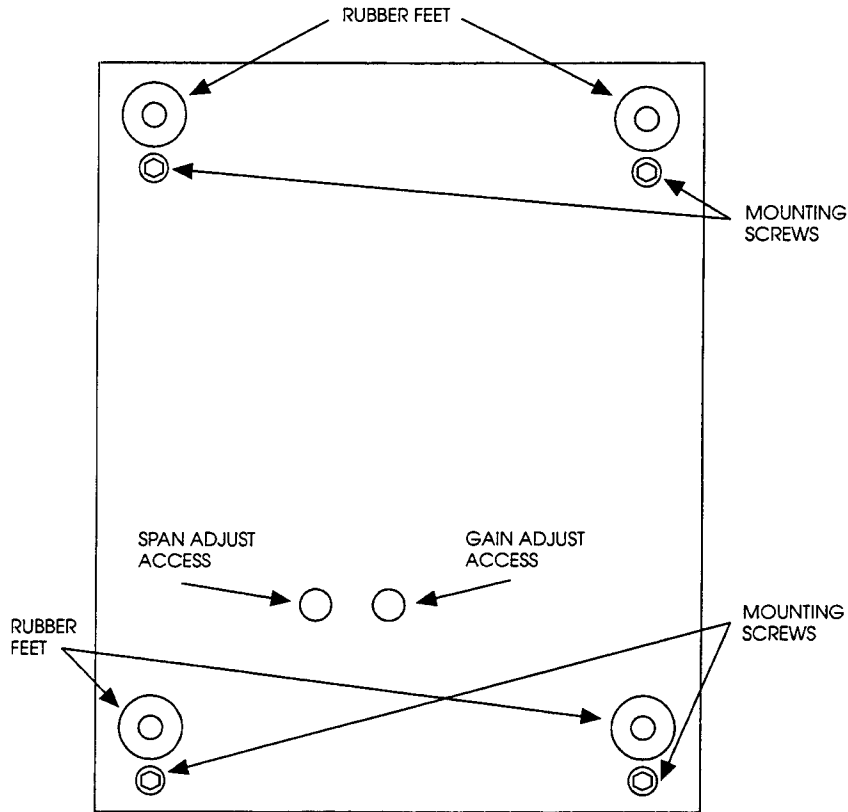

Figure 4. Bottom Cover Mounting Screw and Gain/Span Control Access Location
6.3.1 Gain (See Figure 4)
7. Return the pen to the setting in step "E" with the E potentiometer in the preamp circuit. (Figure 4)
9. Return the pen to the setting in step "E" with the 1 potentiometer in the pre-amp circuit. (Figure 4)
6.3.3. Span (See Figure 4)
- G. Remove the chassis wrap (Figure 4).
- J. Adjust the 500 mV/1/2/5V range calibration potentiometer located on PreAmp PCB (See Figure 4) for 100% +0.5% pen deflection.